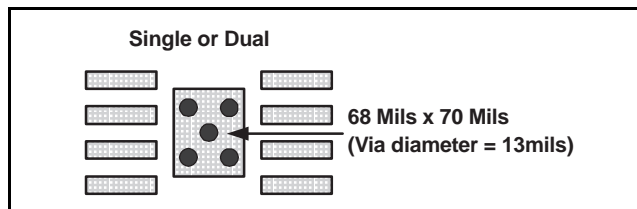

Figure 91. PowerPAD PCB Etch and Via Pattern
1. Prepare the PCB with a top side etch pattern as shown in Figure 91. There should be etch for the leads as well as etch for the thermal pad.